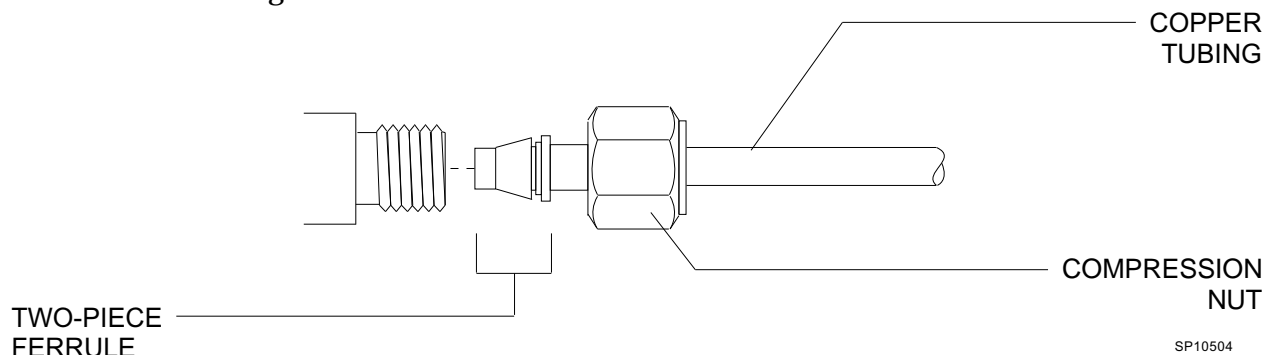
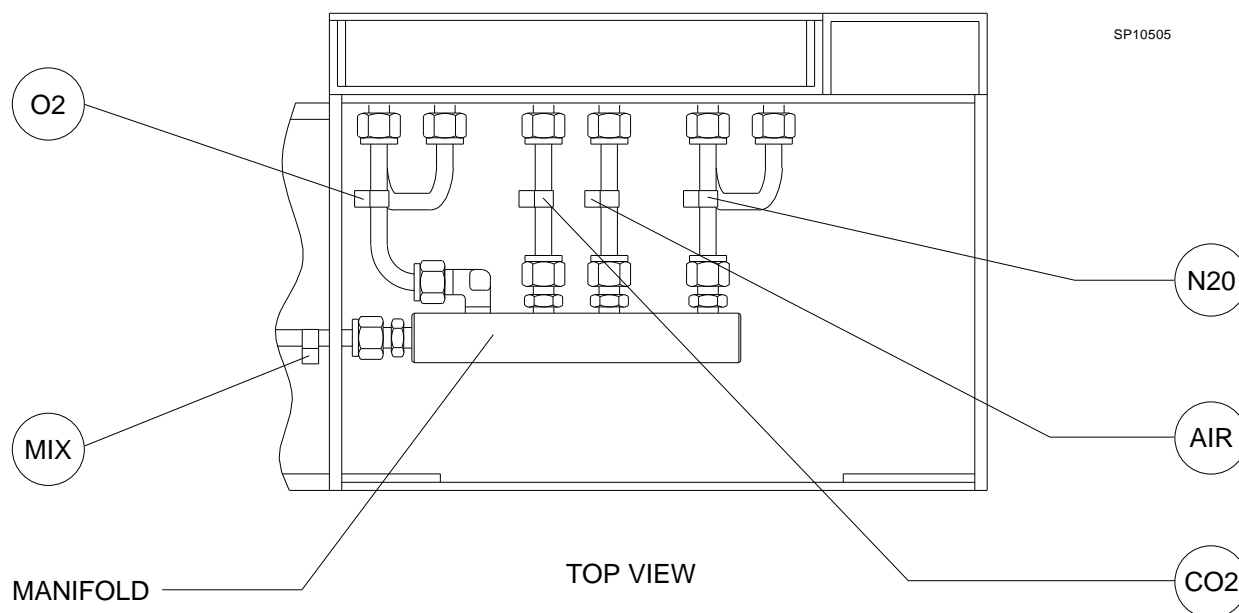
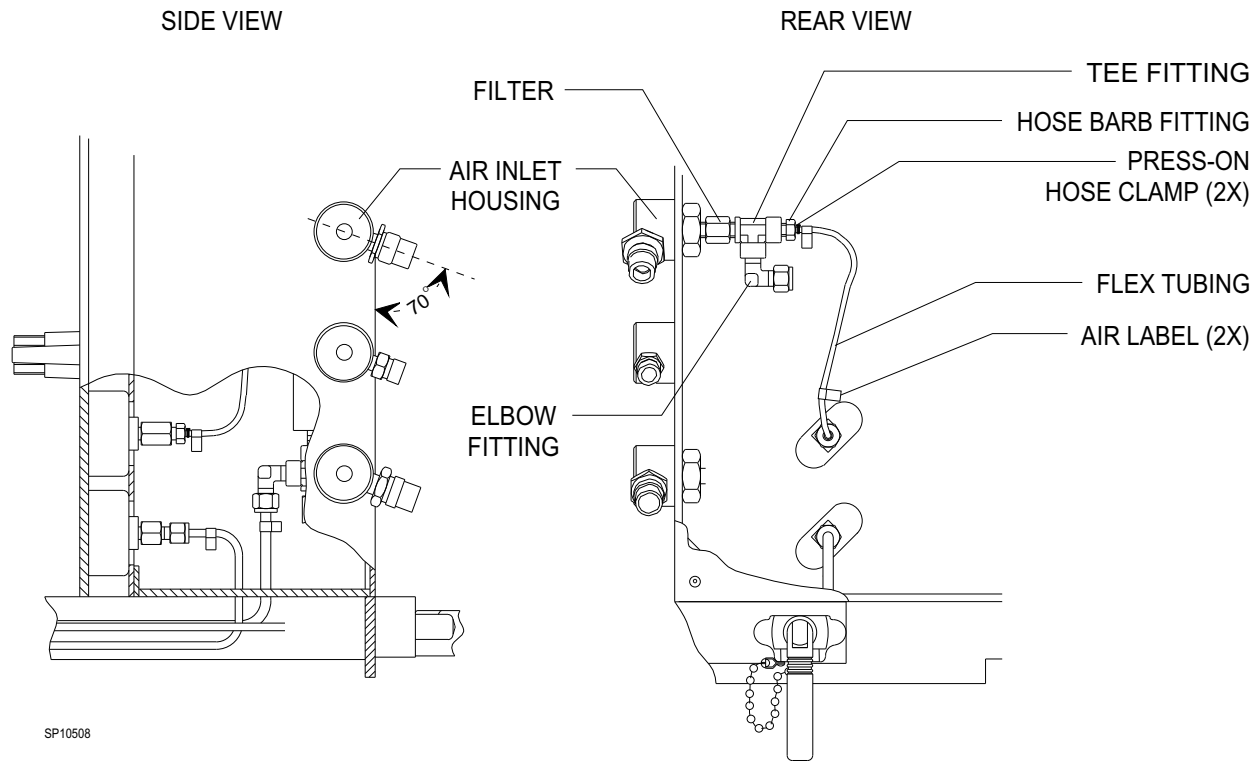

Figure 4: ASSEMBLY OF SWAGELOK FITTINGS
Figure 5: FOUR GAS MANIFOLD ASSEMBLY WITH LABELS
Figure 8: AIR PIPE LINE INLET ASSEMBLY
53. Assemble the compression fittings onto the open ended tubes on the 4-gas manifold assembly (consisting of P/Ns 4108483, 4109408 x4, 4109410, 4110834-009 x3, and 4110837-013 x2) as shown in Figure 5. Ensure that the Swagelok fittings with the two-piece ferrules are assembled as shown in Figure 4.
Insert the copper tubes into the manifold assembly as shown in Figure 5. Before tightening the compression nuts, ensure that the tubing is inserted into the fittings as far as possible.
54. Attach the copper tubes on the manifold assembly on the ports at the top of the flowmeter bank as shown in Figure 5. Ensure that the tubing is inserted into the fittings as far as possible, and tighten the compression nuts.
55. Attach the correct gas-identifying label (P/N 4109871, 4109872, 4109873, 4109874, and 4109901) to each tube on the manifold assembly as shown in Figure 5.
67. Install a DISS air inlet housing assembly (consisting of P/Ns 4113363 and 4102886) in the hole where the plug was removed, using a ⅝-18 hex nut (P/N HW52002) and lock washer (P/N HW67001). Orient the DISS connector at a 70° angle as shown in Figure 8. Apply an AIR label (P/N 4102742) to the inlet housing.
69. Apply a small amount of Loctite #271 (red) to the threads of tee fitting (P/N 4102760). Install it into the filter assembly as shown in Figure 8, with its side port facing downward.
70. Apply a small amount of Loctite #271 (red) to the threads of a ⅜ NPT x 1/16 in. hose barb fitting (P/N 4111771). Install it into the end port of the tee as shown in Figure 8.
71. Remove the nut and ferrules from ¼ in. tube to ⅜ NPT elbow fitting (P/N 4109410). Using a small amount of Loctite #271 (red) install it in the remaining port as shown in Figure 8. Reattach the nut and ferrules on the fitting (ref. Figure 4).